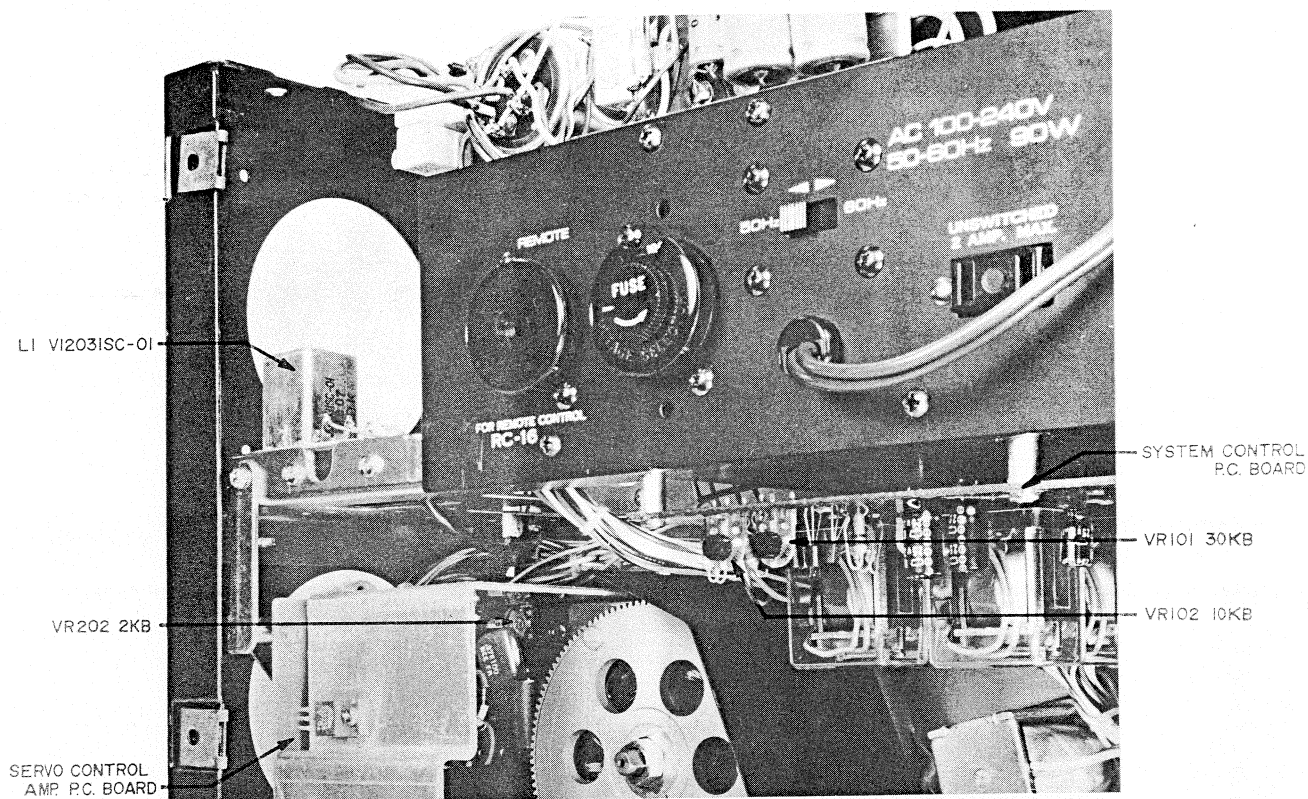

Fig. 9
- 3) Adjust the core of coil L1 (VI023SC-01) shown in Fig. 9 so that the Frequency Counter indication is 500 Hz $\pm 1\%$.
- 4) After the 3-3/4 ips (9.5 cm/sec.) tape speed adjustment has been completed, depress the 7-1/2 ips (19 cm/sec.) Tape Speed Selector and adjust Servo-Control P.C. Board semi-fixed resistor VR202 (2 k Ω) shown in Fig. 9 so that the frequency counter indication is 1,000 Hz $\pm 1/-0.5\%$.
Adjust System Control P.C. Board semi-fixed resistor VR101 (30 k Ω) shown in Fig. 9 so that when the machine is switched from FWD to REV mode or from REV to FWD mode, the pinch wheel separates from the capstan in about 3 seconds.
- 2) Adjust System Control P.C. Board semi-fixed resistor VR102 (10 k Ω) shown in Fig. 9 so that when the machine is switched from F.FWD or RWD to FWD or REV mode, the time constant is about 1.5 seconds.